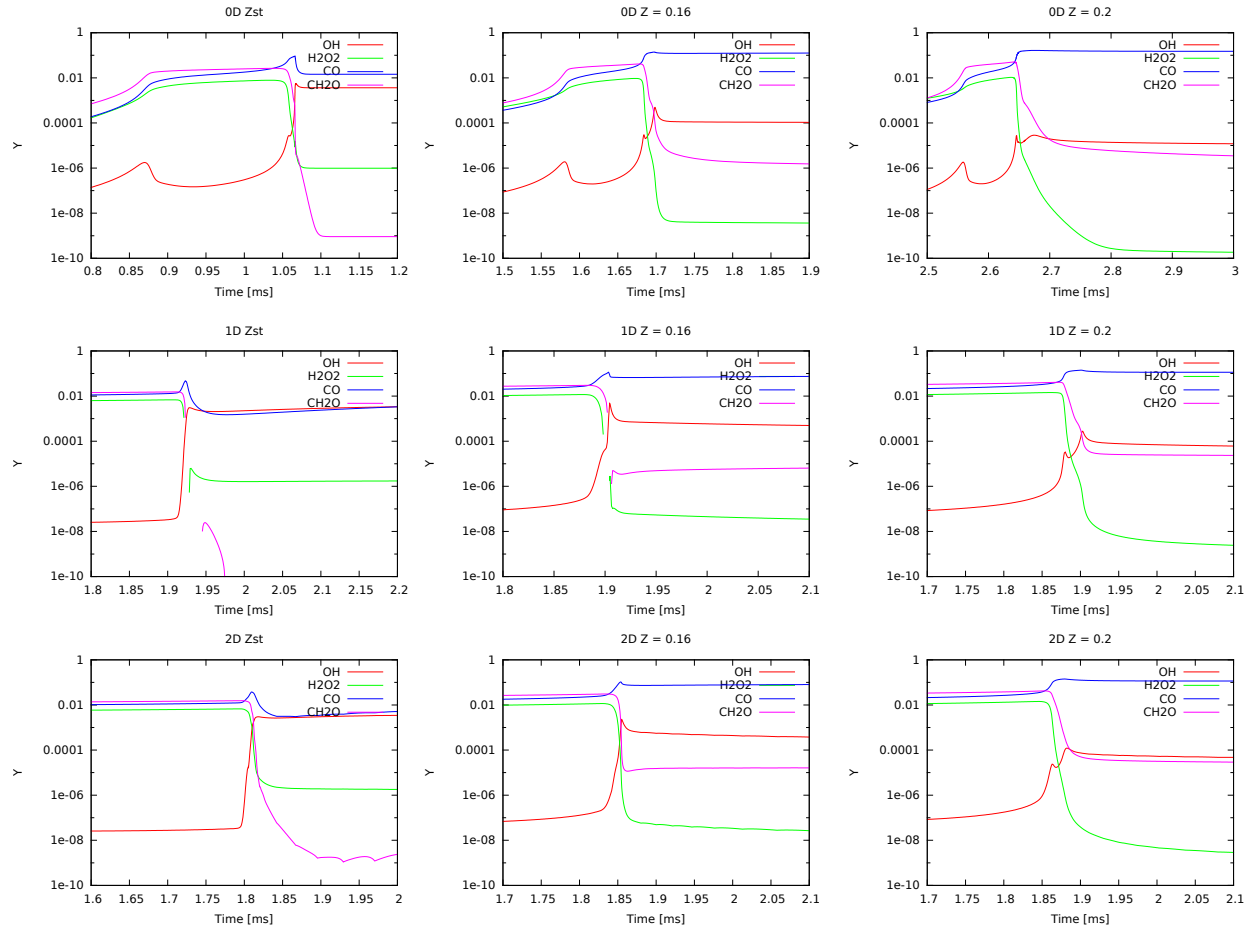

Figure 4: Without dilution.
- 0-1-2D comparison to demonstrate the system response and the stabilization mechanism. Fig. 4 and Fig. [?].